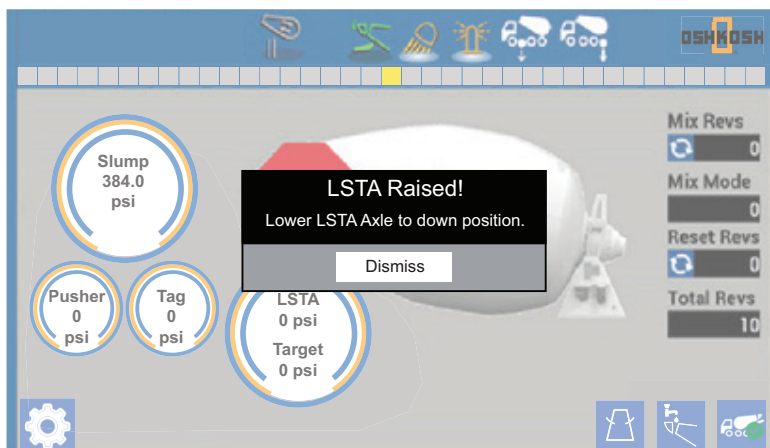

Figure 1 - LSTA Raised Splash Screen
- Added a splash screen to the overhead display to notify the operator the vehicle is traveling greater than 15 MPH with the Load-Span® tag axle (LSTA) in the UP position, see Figure 1.